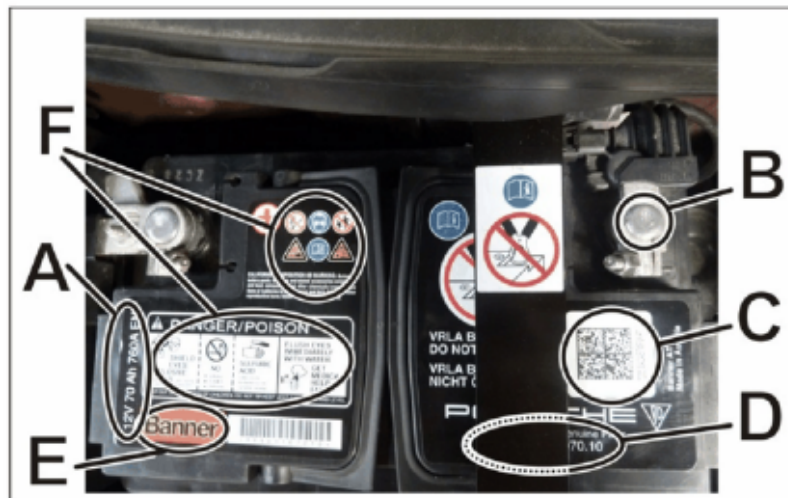

Figure 1
⇒ The specifications on the battery (in the vehicle) may differ from the specifications shown in Figure 1
⇒ **Illustration (⇒ Figure 1) serves only as an example.**
- Battery type: Rating in Ah (⇒ Figure 1 -Item A-),
- Date of manufacture of the battery (stamped on negative terminal): ⇒ Figure 1 -Item B-),
- Battery I-No. (for 2D code: ⇒ Figure 1 -Item C-),
- Item number (⇒ Figure 1 -Item D-) and
- Battery manufacturer (⇒ *Figure 1 -Item E-*),
- Safety instructions and warnings for handling the battery (⇒ *Figure 1 -Item F-*).